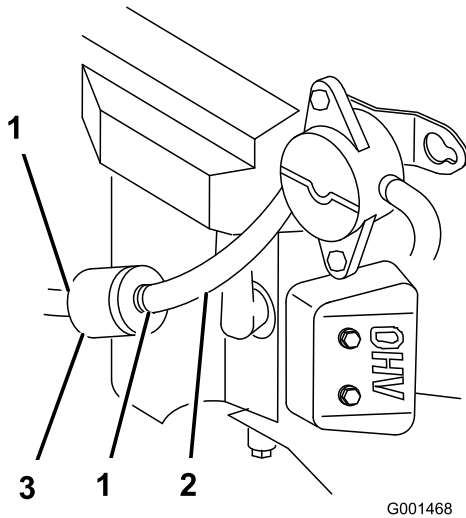

Figure 38
- Squeeze the ends of the hose clamps together and slide them away from the filter (Figure 38).